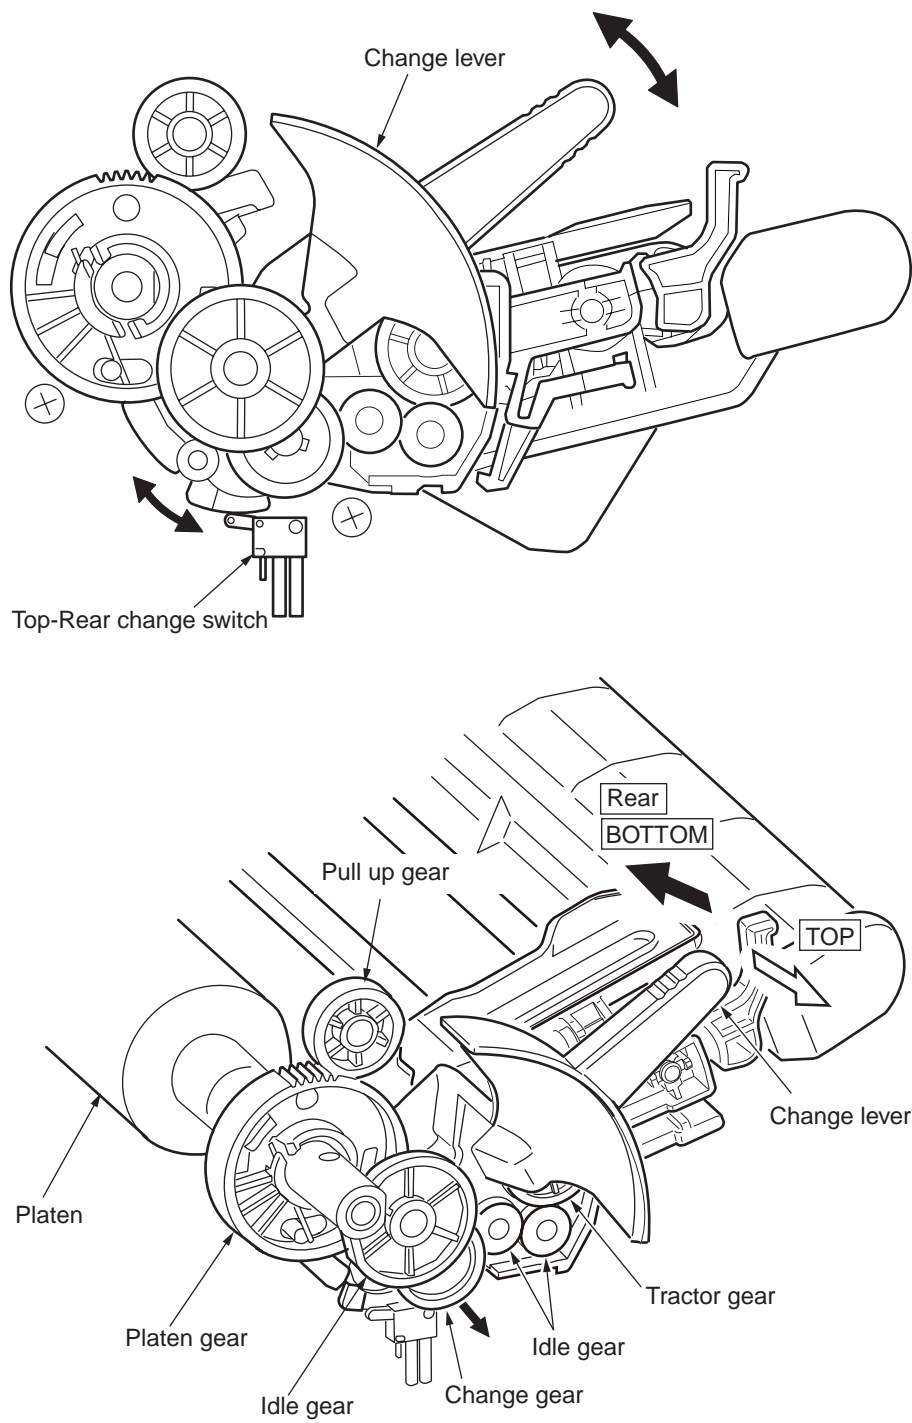

Figure 6
(1) Cut sheet and continuous sheet switching mechanism (See Figure 6.)